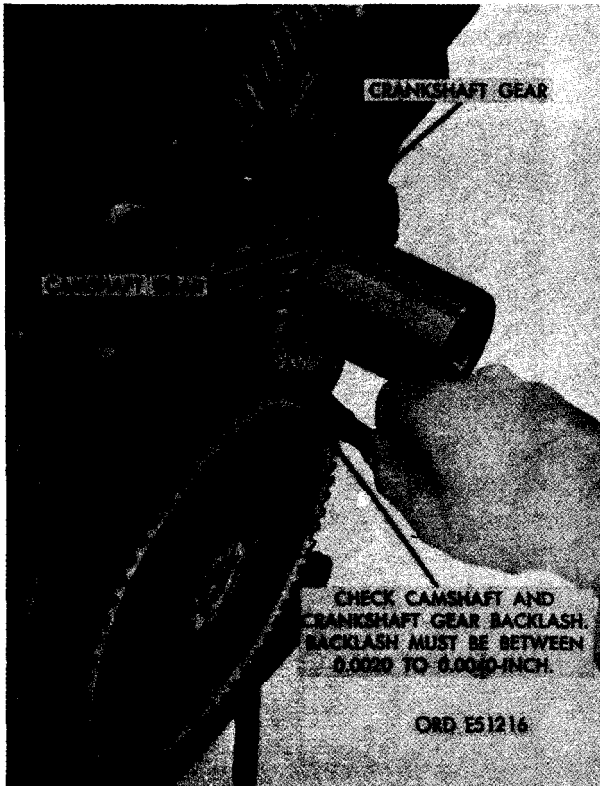

FIGURE 474. CHECKING CAMSHAFT AND CRANKSHAFT GEAR BACKLASH USING A FEELER GAGE.
**b. Check Crankshaft and Camshaft Gear Backlash.** Refer to figure 474 and check backlash between crankshaft and camshaft gears. If backlash is not within limits specified, remove and discard camshaft gear, crankshaft gear, and fuel injection pump driven gear. Replace all three gears as a set.